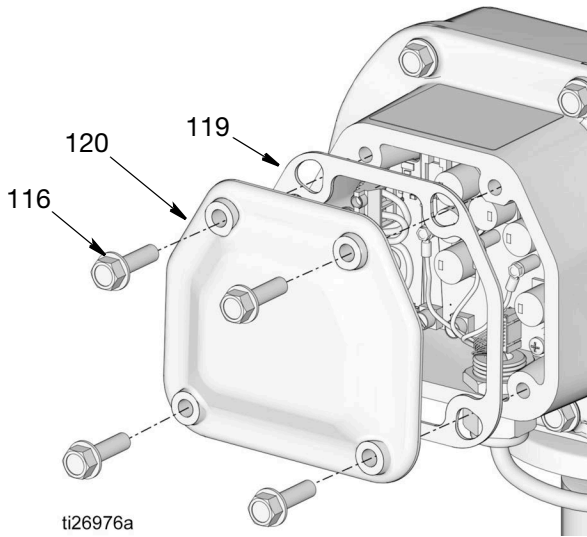

FIG. 65
5. Remove the screws (116) from the motor control box cover (120), and remove the cover and gasket (119) (FIG. 65).